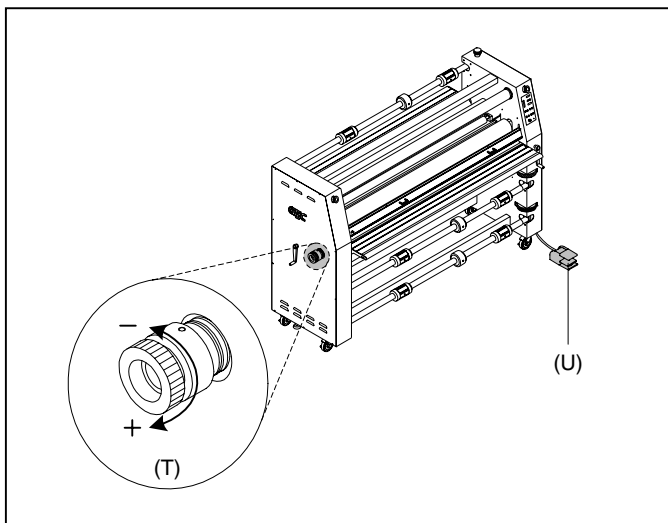

Fig. 16
T. CLUTCH: (Figure 16) Used to increase or decrease pull roller clutch tension. Clockwise rotation will increase clutch tension while counterclockwise rotation decreases clutch tension.
U. ACCELERATOR FOOTSWITCH: (Figure 16) Accelerator means the more you press, the faster the speed. When all safety is in place, the laminator will operate normally. With safety out, speed is reduced to 1mpm.